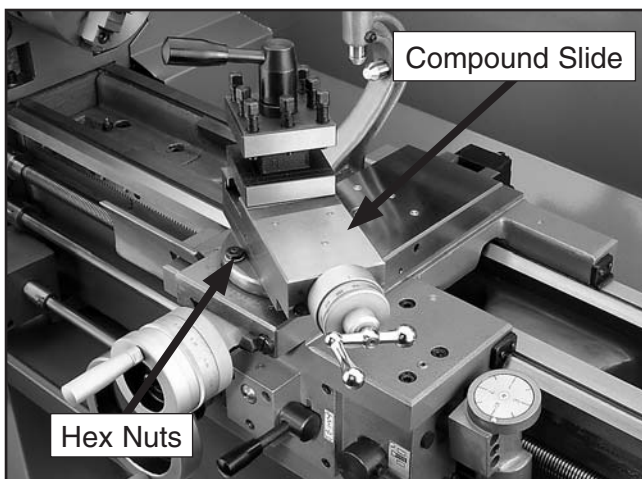

Figure 41. Compound slide set at an angle.
1. Loosen the two hex nuts, one on each side of the compound slide (see **Figure 41**).